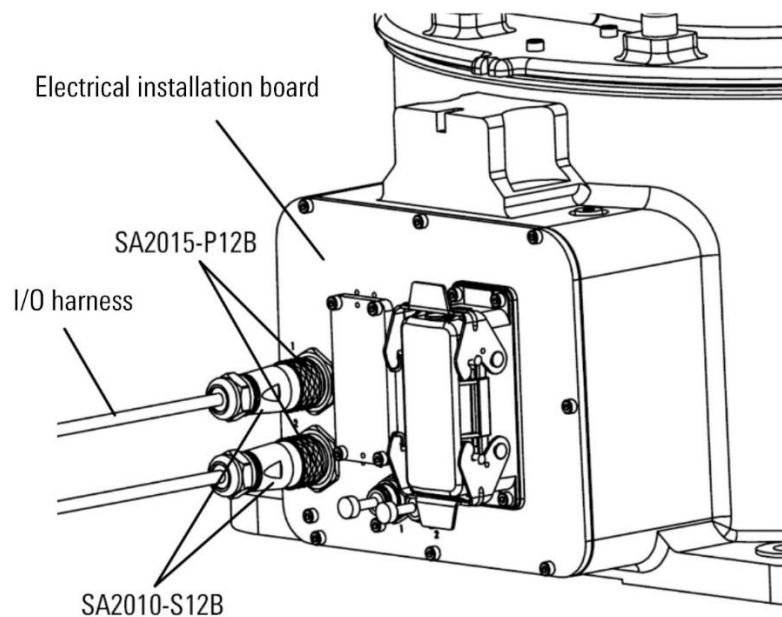

Figure 5-3 I/O harness connection diagram on the base
Step1. Plug ① one end of the base IO harness with a SA2010-S12B12pin jack-type cable plug into the SA2015-P12B 12pin front nut socket on the electrical installation board, and the other end is loosely wired as the I/O input (refer to Figure 5-3).